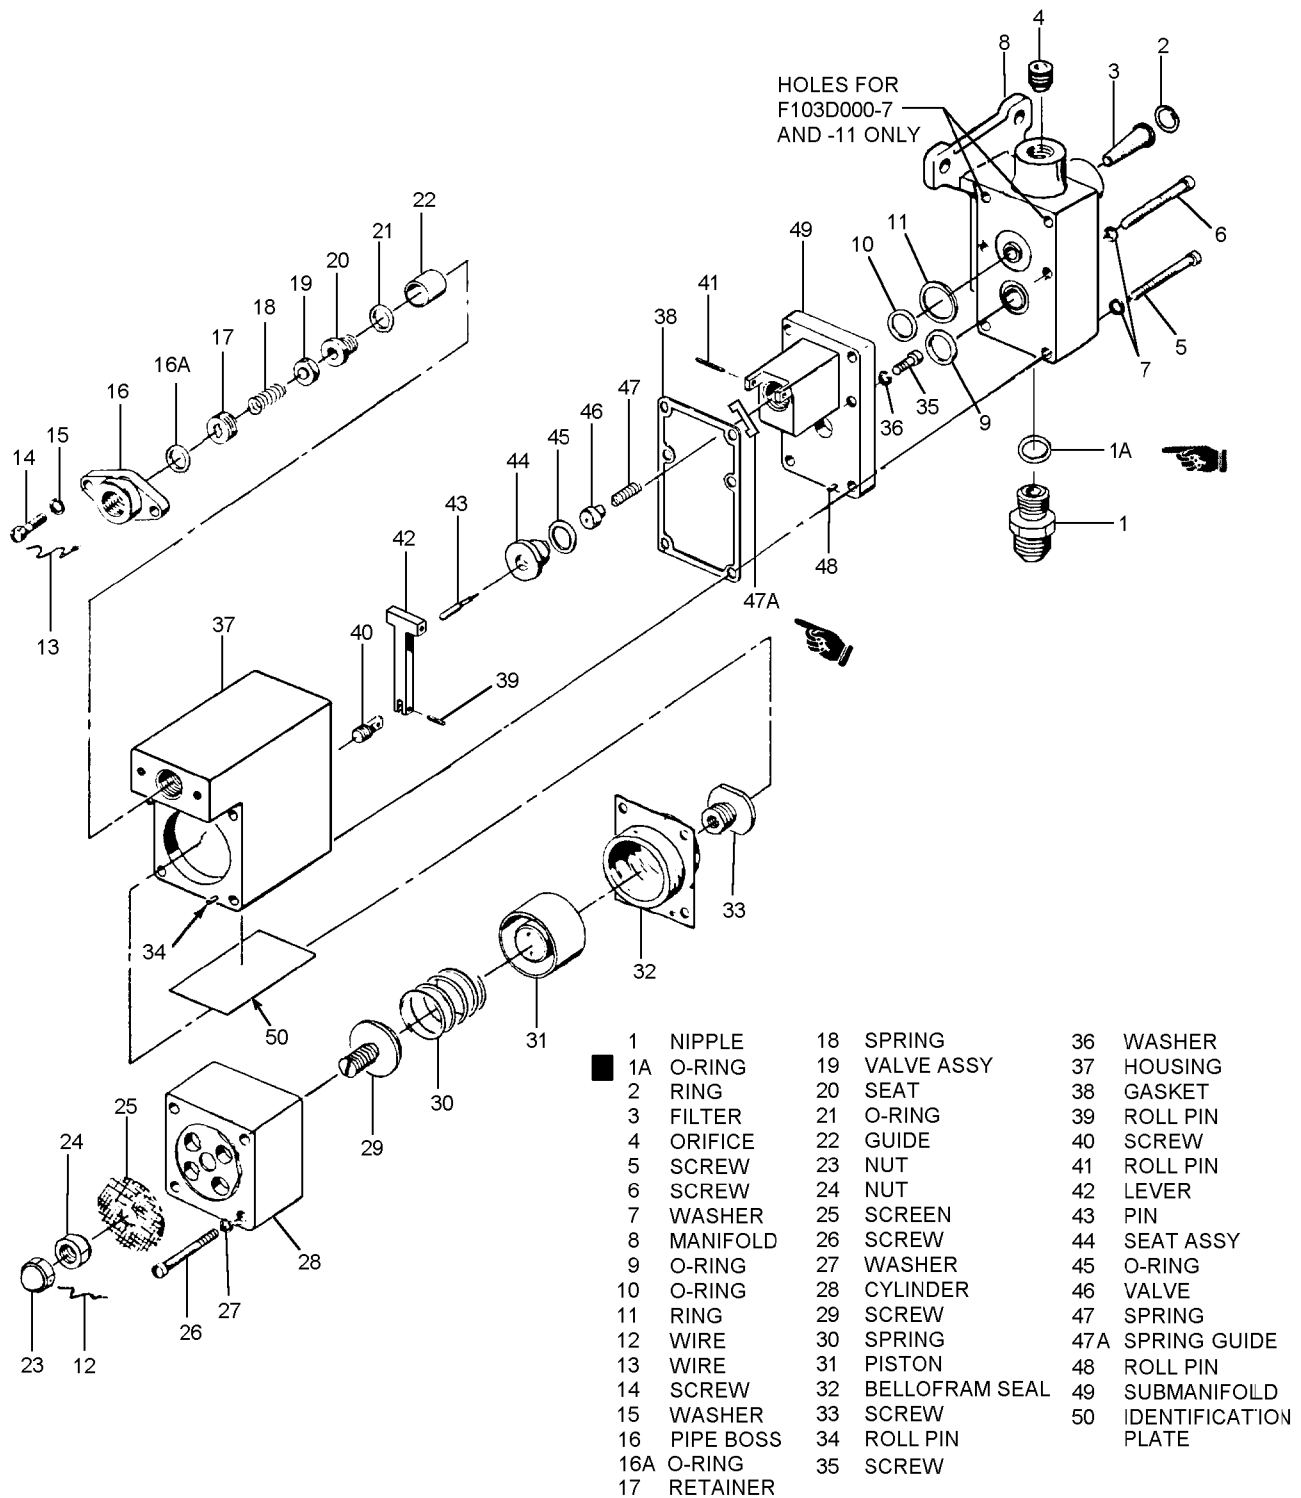

Figure 9-2. Reducing Valve Part Layout
2. Disassemble reducing valve only to the extent necessary to perform required cleaning, inspection, repair or replacement, or testing procedures. Disassemble unit (either partially or completely) in the sequence indicated by the index numbers of figure 9-2. Unless otherwise indicated, index numbers as given refer to figure 9-2.
1. Reassemble reducing valve in reverse of the sequence indicated by the index numbers of figure 9-2, noting the precautions used in paragraph 9-8.
2. Apply a thin coat of Krytox 240 to O-rings (1A, 9, 10, 16A, 21, and 45), gasket (38) and bottom of screw (29) prior to assembly.